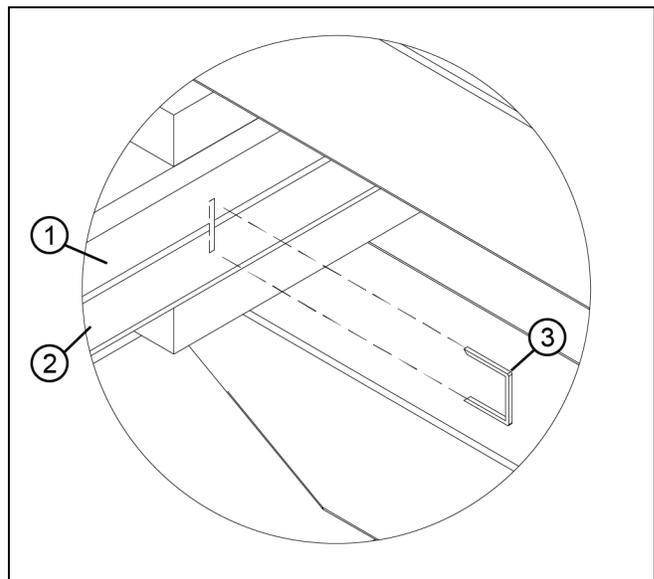

Figure 23
3. Apply third clamp if necessary and fasten interior wood members with 1/2" x 1/2" 16 gauge staples spaced every 5" (127). See Figure 23.